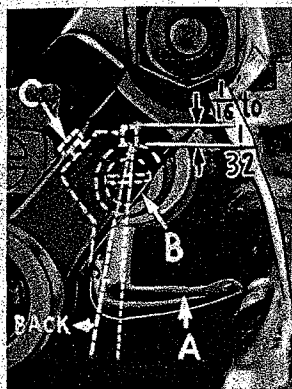

Fig. 8
Insert upper looper (A, Fig. 8) in its holder. Screw (B) holds upper looper in its holder and permits it to be pushed in or out or turned around its shank. Insert upper looper holder into upper looper shaft (if not already in place).
Screw (C) on the clamp holds the upper looper holder in the shaft. Locate upper looper in its holder so that the shank extends $\frac{1}{32}$ to $\frac{1}{16}$ inch beyond holder (Fig. 8).